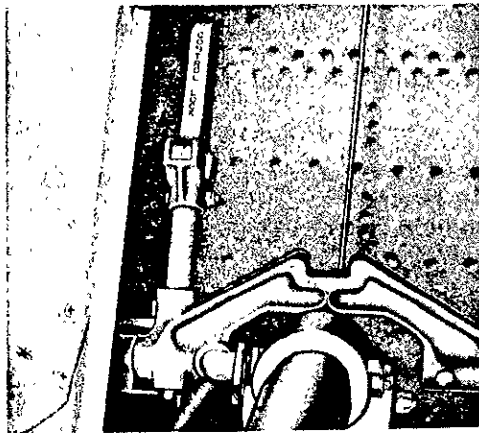

Figure 17—Surface Control Lock
(7) Unlock the surface control lock. (See figure 17.)